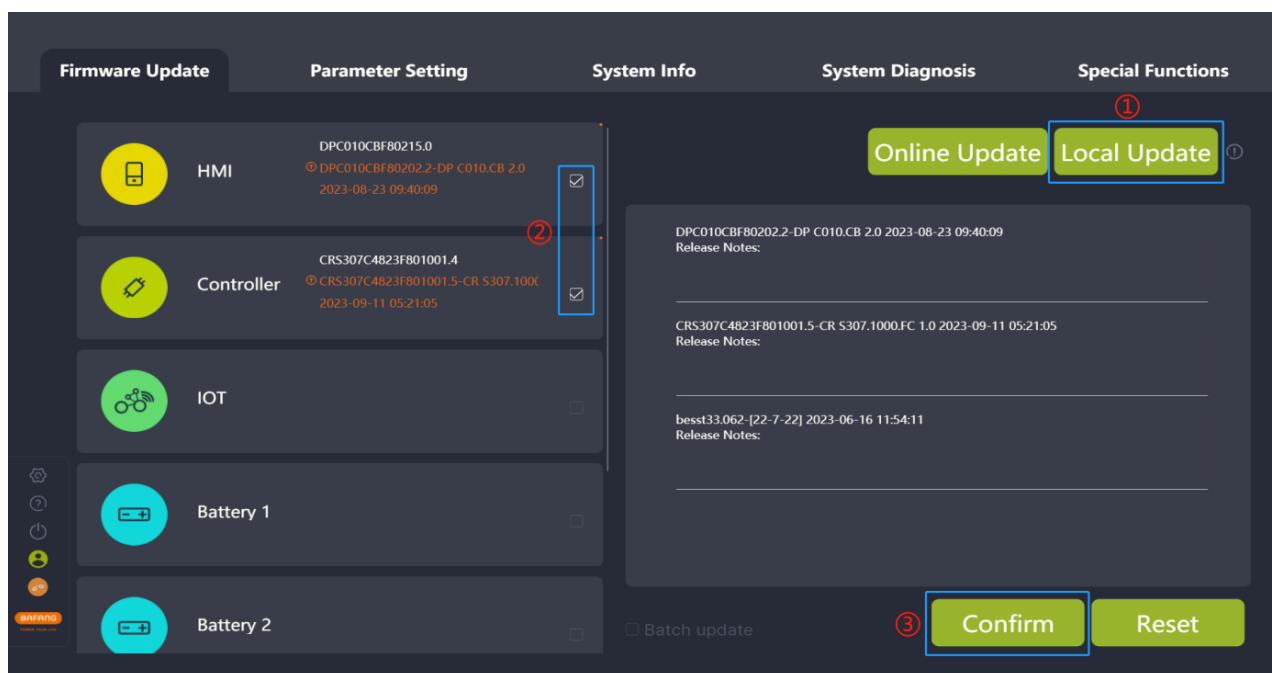

Fig. 4-13 Local update
- (1) **Local update:** Click “Local Update”. After selecting multiple firmwares to be updated from the local area, check the parts to be updated (Fig.4-13).